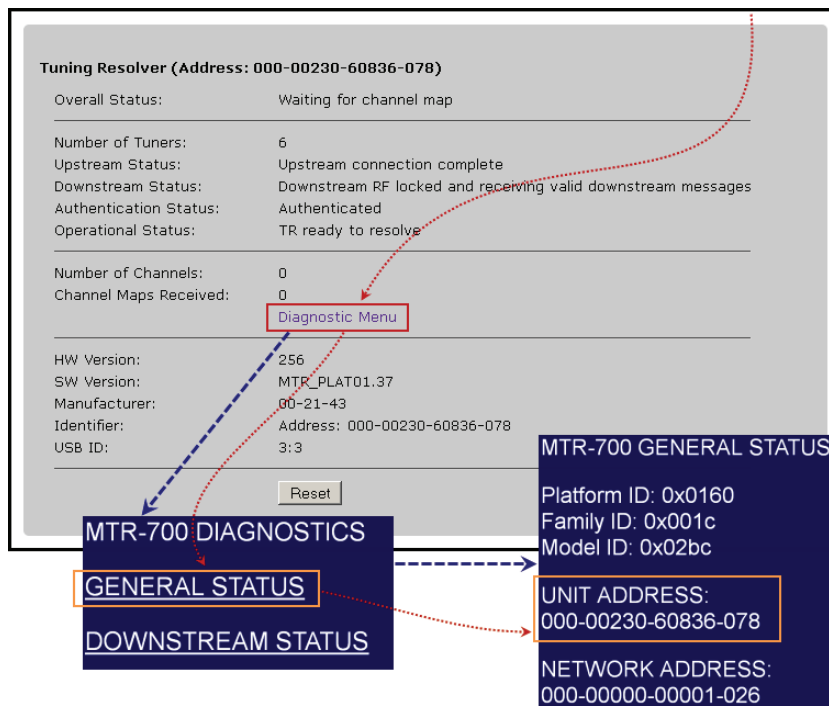

Figure 13-4: Obtain Tuning Resolver Address
4. A new window opens, Figure 13-4. The information on this page is pulled from the Tuning Resolver and displayed as a status page.